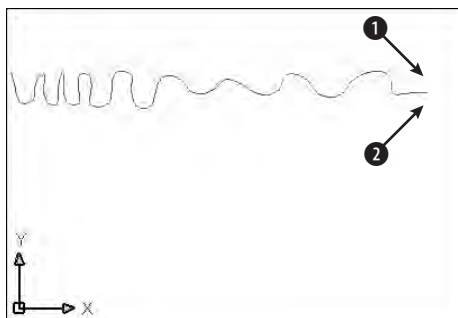

Figure 23-34: A spline
2. Save it as `ab23-06.dwg` in your AutoCAD Bible folder. You see a spline, as shown in Figure 23-34. In this exercise, you use the spline to draw some drapes.
3. Mirror the spline. For the mirror line, turn on ORTHO and use ❶ and ❷ as shown in Figure 23-34. Don't delete the original spline.